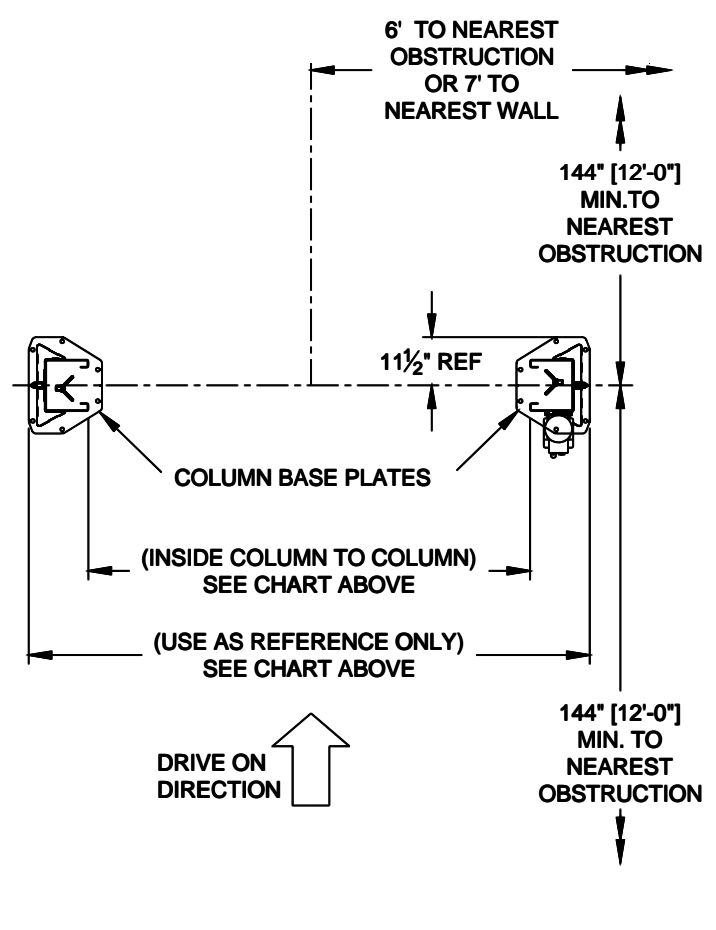

Fig1b - Service Bay Layout
- 1) Layout the service bay according to the architect's plans or owners instructions (see Fig 1b). Failure to install in this orientation can result in personal and property damage. Be certain that the proper conditions exist, see page 3.